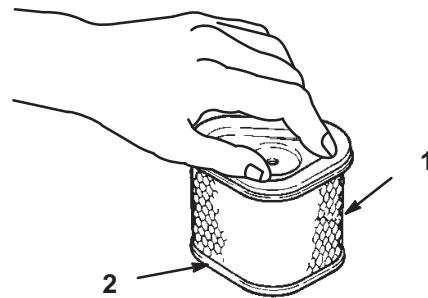

Figure 29
1. Lightly tap the element on a flat surface to remove dust and dirt (Fig. 29).